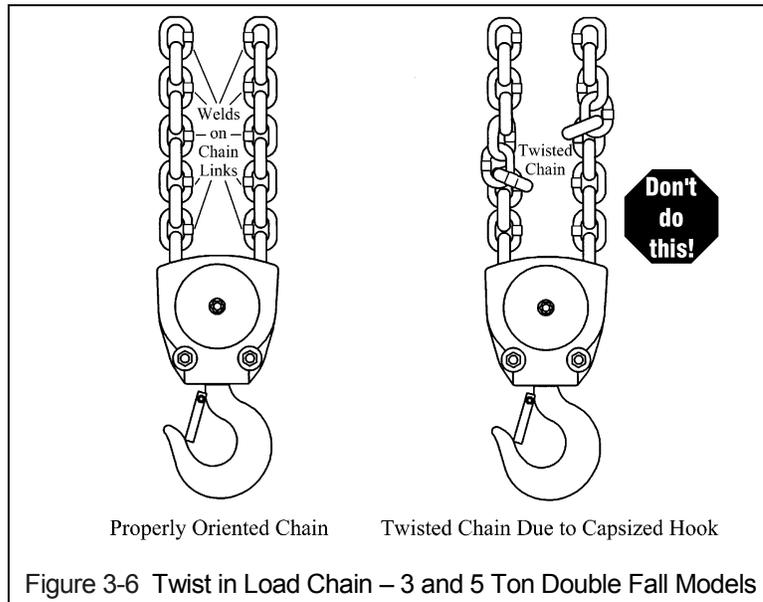

Figure 3-6 Twist in Load Chain – 3 and 5 Ton Double Fall Models
- 3.2.6 **⚠ WARNING** Verify that the load chain is not twisted or tangled prior to operating the hoist. Make sure the bottom hook on 3 and 5 Ton double fall models is not capsized. See Figures 3-6 and 3-7. Correct all chain irregularities before conducting the first hoist operation.